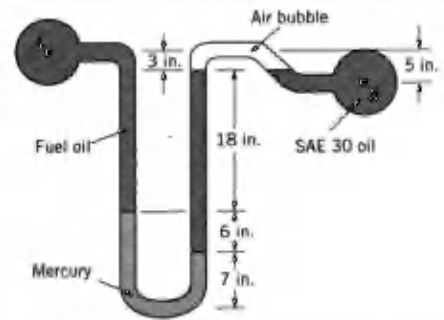

FIGURE P2.5R
2.5R (Manometer) A mercury manometer is used to measure the pressure difference in the two pipelines of Fig. P2.5R. Fuel oil (specific weight =  $53.0 \text{ lb/ft}^3$ ) is flowing in A and SAE 30 lube oil (specific weight =  $57.0 \text{ lb/ft}^3$ ) is flowing in B. An air pocket has become entrapped in the lube oil as indicated. Determine the pressure in pipe B if the pressure in A is 15.3 psi.